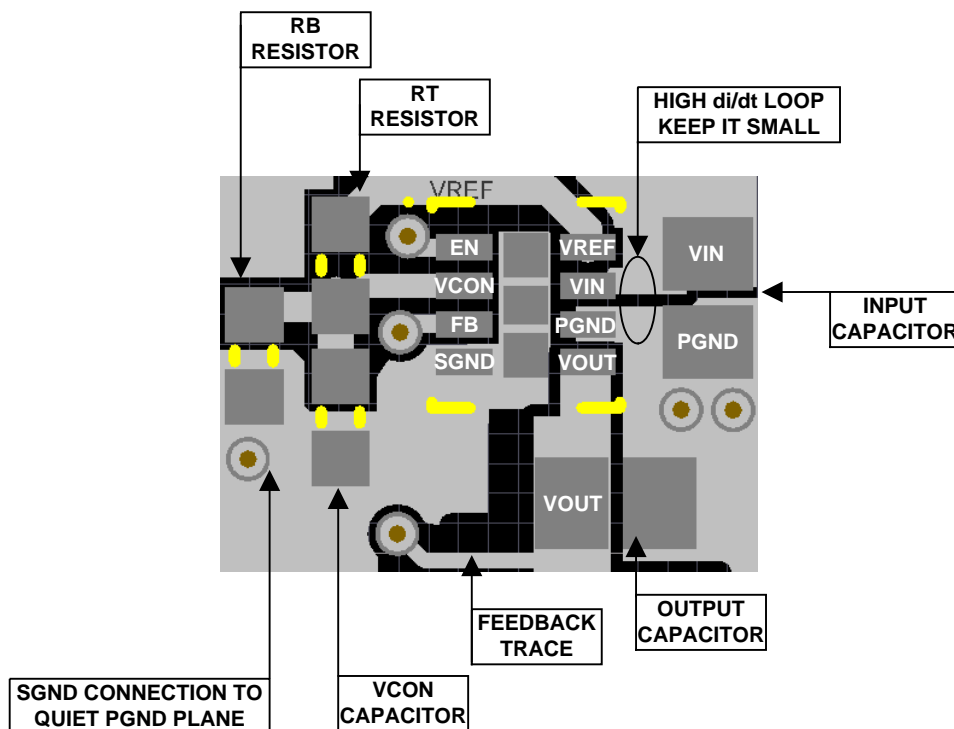

Figure 38. Example Top Layer Board Layout
The LMZ10500 integrates the inductor and simplifies the DC-DC converter board layout. Refer to the example layout in Figure 38. There are a few basic requirements to achieve a good LMZ10500 layout.
2. Place the V_{CON} filter capacitor C_{VC} and the R_B R_T resistive divider as close as possible to the V_{CON} and SGND terminals. The C_{VC} capacitor (not R_B) should be the component closer to the V_{CON} pin, as shown in Figure 38. This allows for better bypass of the control voltage set at V_{CON} .